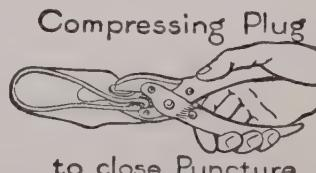

Fig. 110.
*Third.*—Bring the near side of the tube towards you, so that the plug is carried to the near edge and placed directly under the discs on the jaws of the pliers (see Fig. 110). Grip the handles of the pliers firmly, closing the jaws and clamping the plug in the tube. Then reverse the operation, taking the plug to the farther side of the tube and applying the pliers from that side. The repair is then complete, Fig. 111. It is essential to use considerable force to compress the plug properly.